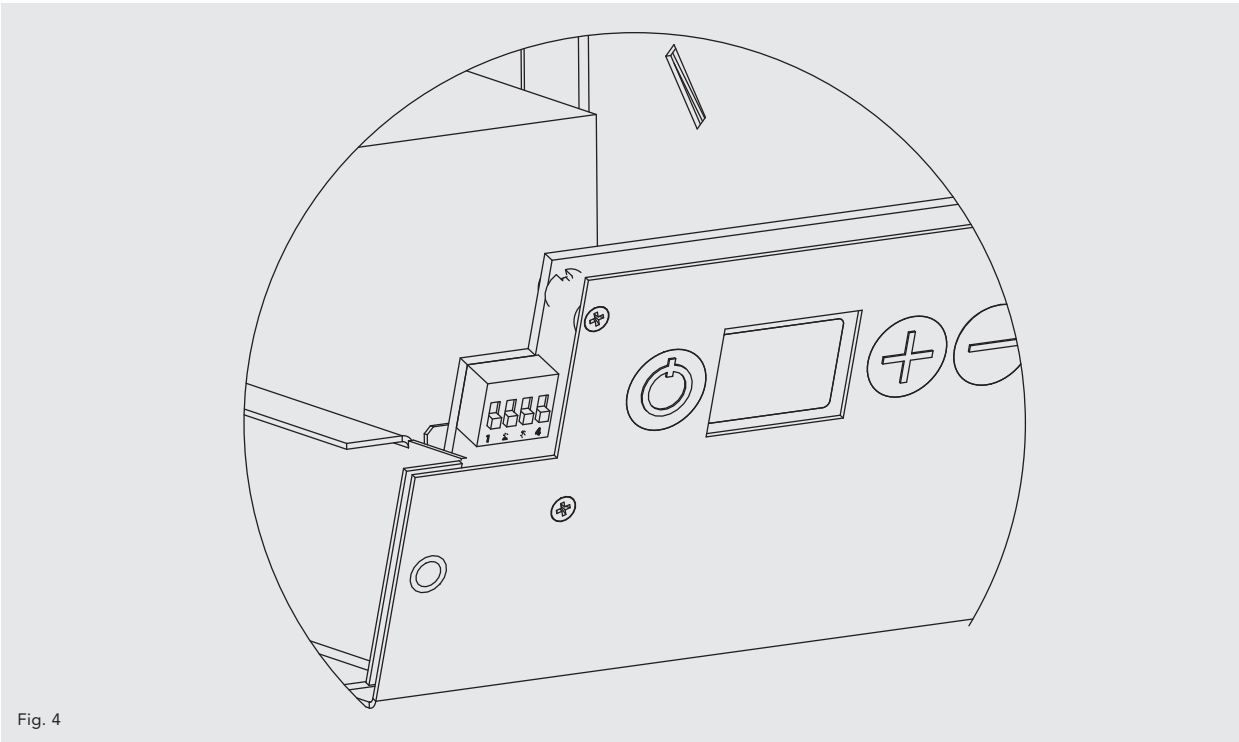

Fig. 4
- Change switch position (see fig. 4).